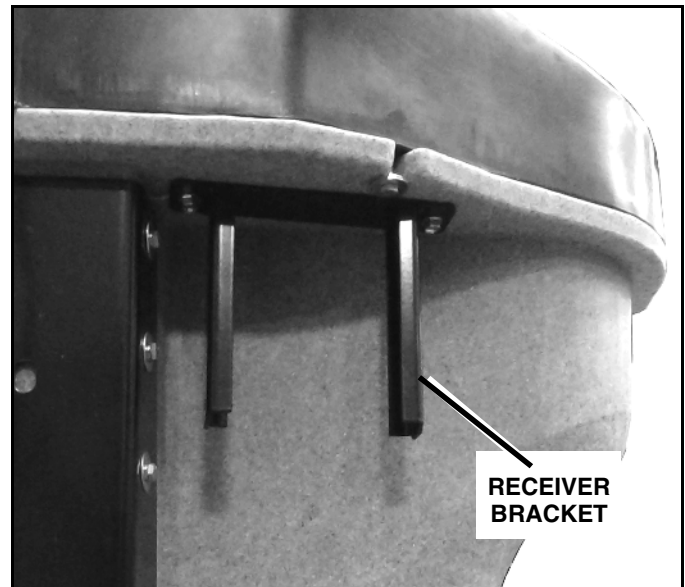

Figure 1-7
2. Remove the receiver bracket from the package and place it under the top lip of the spreader hopper on the driver's side (See Figure 1-7).